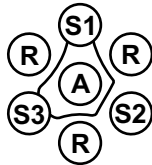

Figure 1.
Place 20 µl of Bluetongue Virus Antigen (A) in the center well and 20 µl of Positive Reference Serum (R) in alternating peripheral wells, leaving three empty wells for samples (Figure 1). Place 20 µl of each sample into empty alternating wells. This arrangement provides a positive control line on each side of the test serum, thus facilitating accurate determination of lines of identity. Fill wells level with the agar surface, leaving no meniscus. Serum or antigen must not run on top of the agar. Allow the plates to set a few minutes before moving to reduce the possibility of spillage. Place the plates in a closed humid chamber and incubate at 22-25°C.
- 1. Negative:** The reference lines continue straight into the test sample well without bending (Figure 1, S1, negative sample).
- 2. Positive:** Control lines join with and form a continuous line with the line between the test serum and antigen (A) (Figure 1, S2, positive sample).
- 3. Weak Positive:** The reference positive control lines bend slightly toward the antigen well (A) and away from the Positive Reference Serum wells (R) but do not form a complete line between antigen (A) and test serum (Figure 1, S3, weak positive sample). These reactions require careful observation and can be easily overlooked. All weak positive samples should be retested before reporting the results.